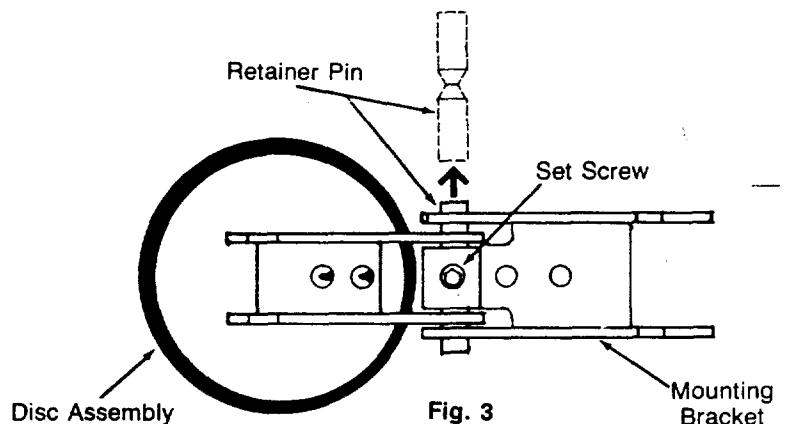

Fig. 3
4. Reach in through the access opening and remove the entire clapper assembly. Opening the clapper assembly, and laying it flat on a table (refer to Fig. 3).